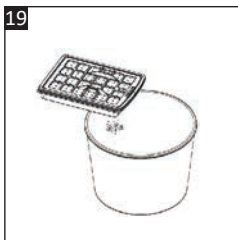

Fig. 19
5. Gently tap the HEPA filter (23) over a rubbish bin to remove excess dust (**Fig. 19**).